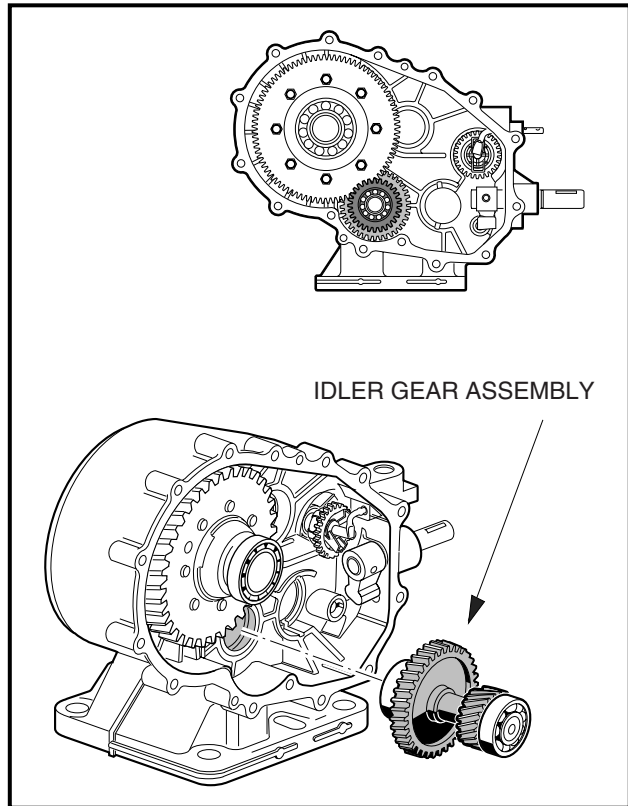

Figure 7-50 Idler Gear Assembly
- 7.2. Install the idler gear assembly into case. Do not seat the assembly in the bore. Instead, insert far enough that it will not fall out. No gears mesh at this point (**Figure 7-50, Page 7-26**).